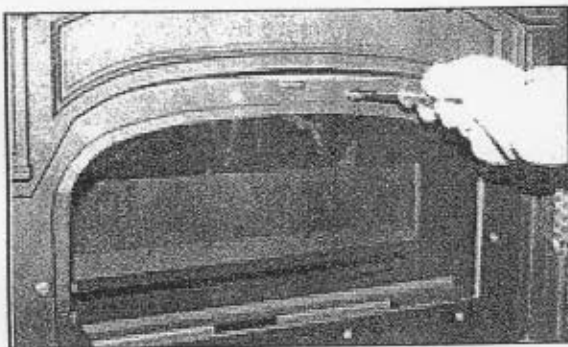
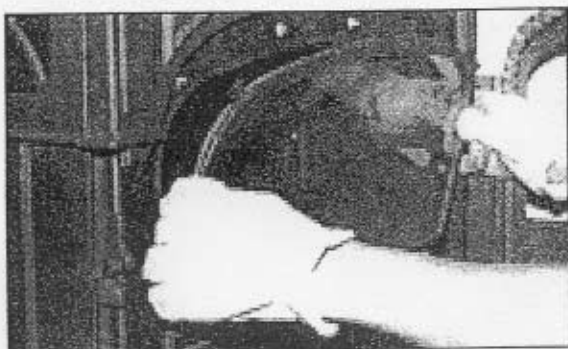

Figure 20A Removal of Sealed Glass
Figure 20B Removal of Sealed Glass
2. To remove the sealed glass, loosen the four (4) nuts on the bottom glass frame with a 3/8" nut driver or socket, but do not remove. See Figures 20A and 20B. Next remove the six (6) nuts on the glass frame. Hold the glass in place while removing the six (6) nuts. See Figure 20B. Carefully lift the glass and frame from the appliance.